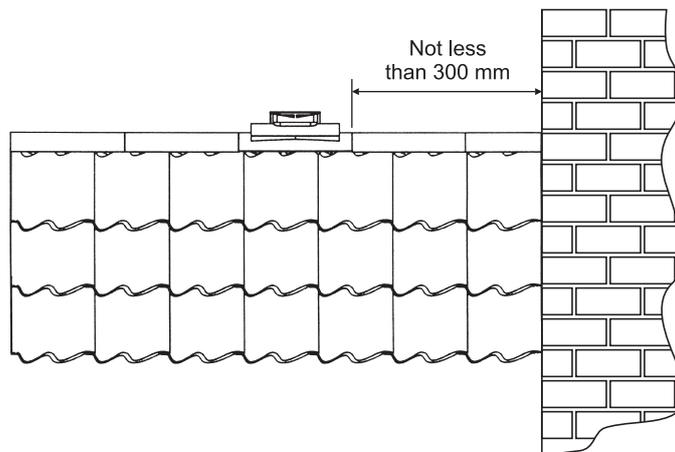

Fig. 1
- Refer to the vertical flue options (Fig. 1) and ensure the flue length **does not exceed** the equivalent of 15 m for a CD boiler (including the terminal assembly) or 6 m for an HE boiler (including the terminal assembly).
- To determine the actual length of flue required, measure the distance from the top of the boiler side panel to the ridge position (H) and subtract approximately 350 mm for the terminal assembly (see Fig. 1).